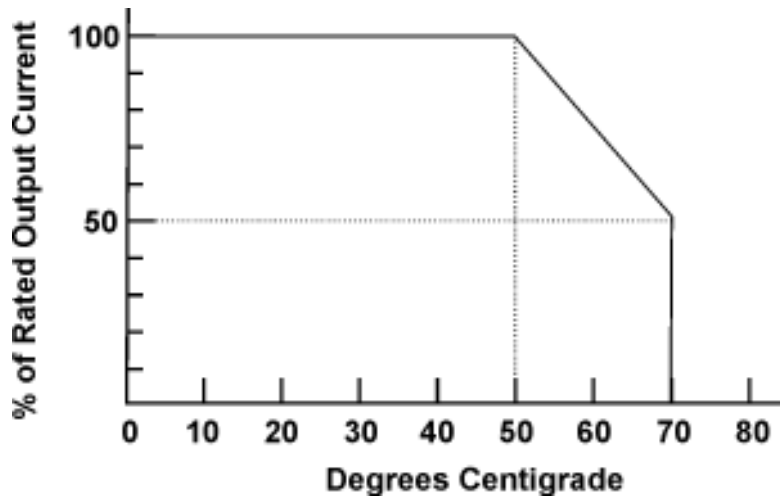

Figure 6. Rated Output Current vs. Ambient Temperature
- 13.4 **Output Power.** Maximum output current is 42A at 24 VDC or 21A at 48 VDC, giving a maximum output power of 1000 watts. The maximum output power of a module may be drawn up to 50°C ambient temperature. Above 50°C the output current must be derated by 2.5%/°C. See Figure 6. The maximum operating temperature is 70°C, at which the output current must be derated by 50%.